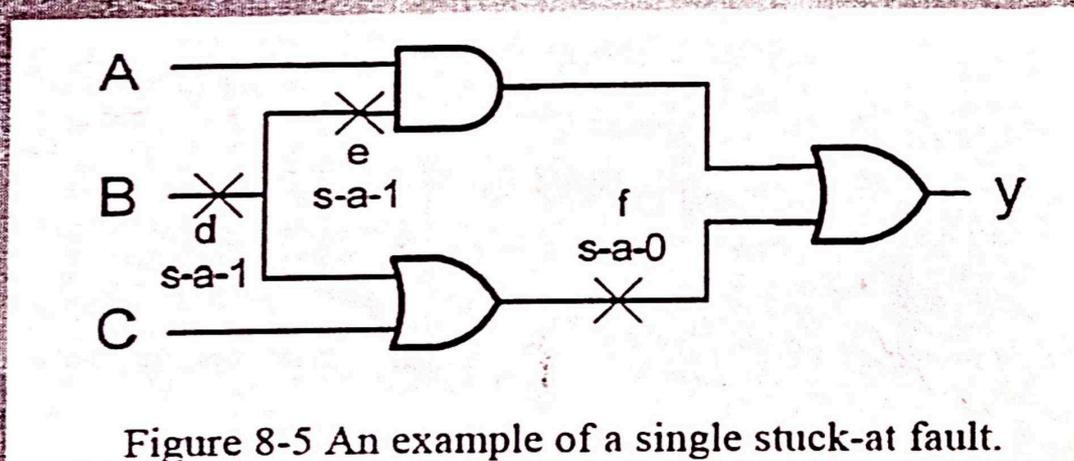

Figure 8-5 An example of a single stuck-at fault.
Consider the circuit in Figure 8-5. Three stuck-at faults (d , e , and f) are marked in the circuit. It is apparent that the fault-free function of output $y = (AB) + (B + C)$. The faulty functions are (note: the fault d s-a-1 can also be written as “ d SAI”, or “ $d/1$ ” for short):